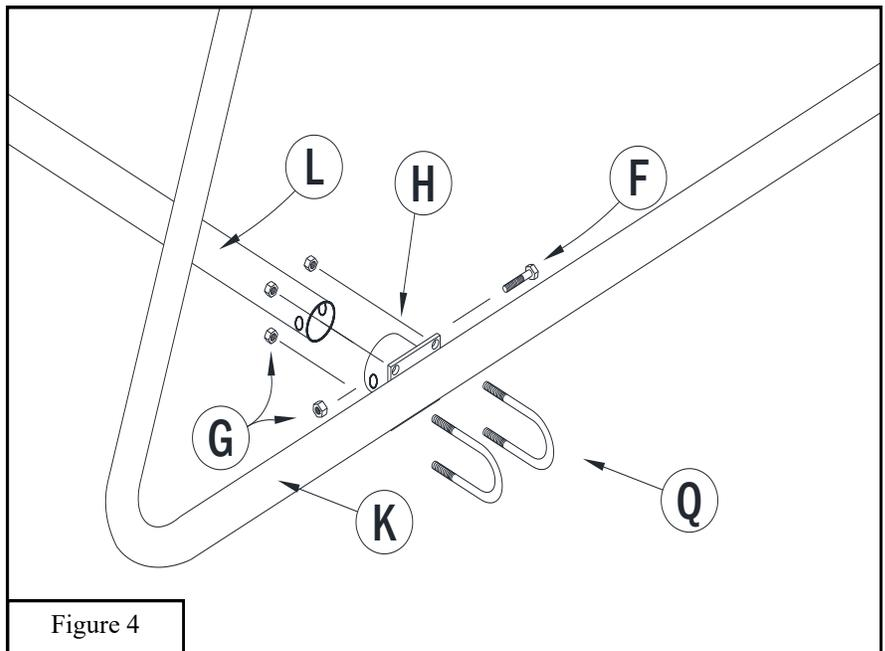

Figure 4
6. Connect a "T" Connector (H) to each end of the *Backstay Spreader Tube* (L) using the $5/16"$ x $2\ 3/4"$ *Hex Bolt* (F) and $5/16"$ *Nylon Lock Nut* (G). See Figure 4.
7. Attach the assembly above to the bottom of the *Backstay* (K) using the $5/16"$ *U-Bolts* (Q) and the $5/16"$ *Locknuts* (G). See Figure 4.
8. Tighten the $5/16"$ *U-Bolts* (Q) with the *Backstay Spreader Tube* (L) as far to the rear as possible unless you are leaving clearance to have the soccer goal be positioned under a football goalpost.
9. Install *Net Attachment Clips* (P) into the slots in each *Upright* (B), and each *Crossbar* (A). The *Net Attachment Clips* (P) slip into the slot and twist 90° into position with the opening to the outside of the goal. You have been provided enough *Net Attachment Clips* (P) to position one every 12"-14" and still have extras depending on the size of your goal.